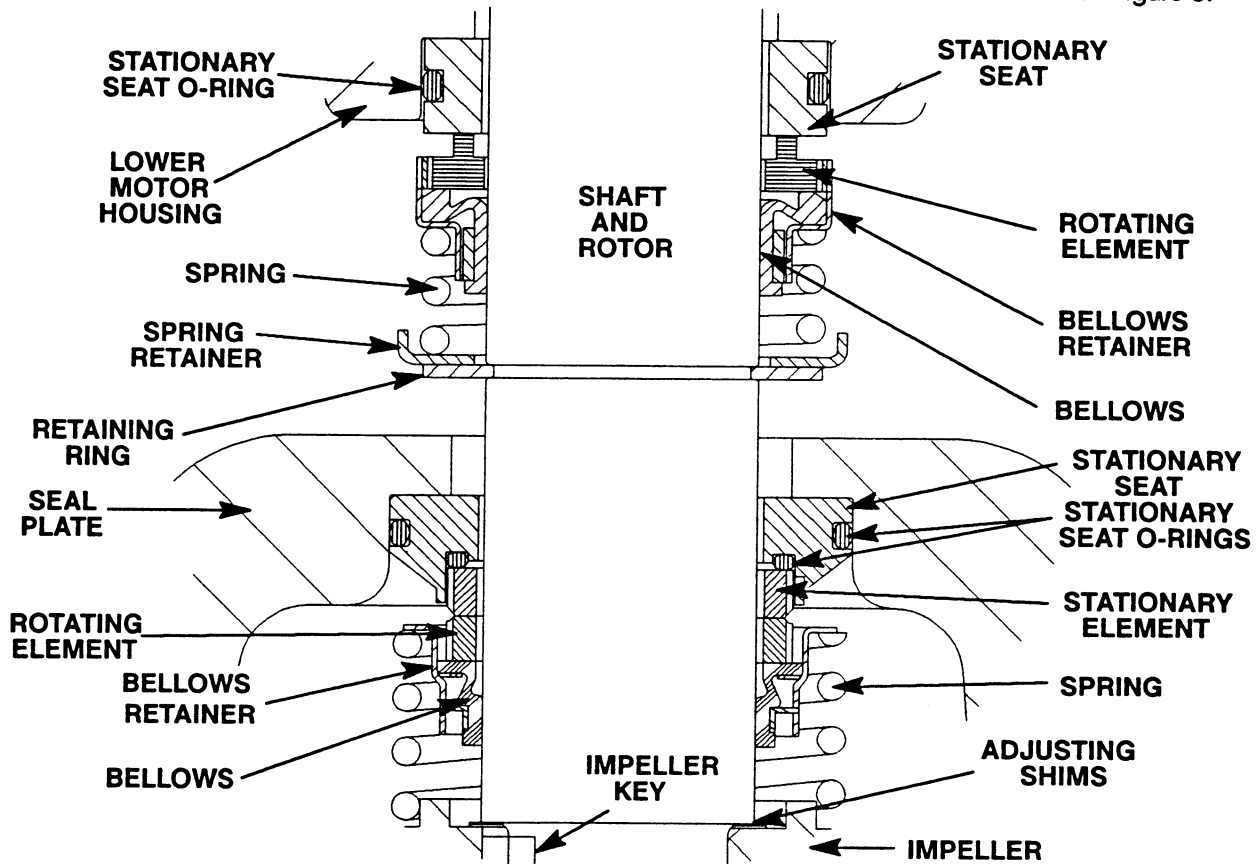

Figure 3. 46512-076 (Lower) And 25271-886 (Upper) Seal Assemblies
Install the shaft seals as illustrated in Figure 3.
Slide the seal spring over the shaft and bellows retainer, and install the spring holder (33). Install the seal retaining ring (34). See Figure 3 for proper order of seal assembly.
Slide the seal spring over the shaft and bellows retainer. See Figure 3 for proper order of seal assembly.